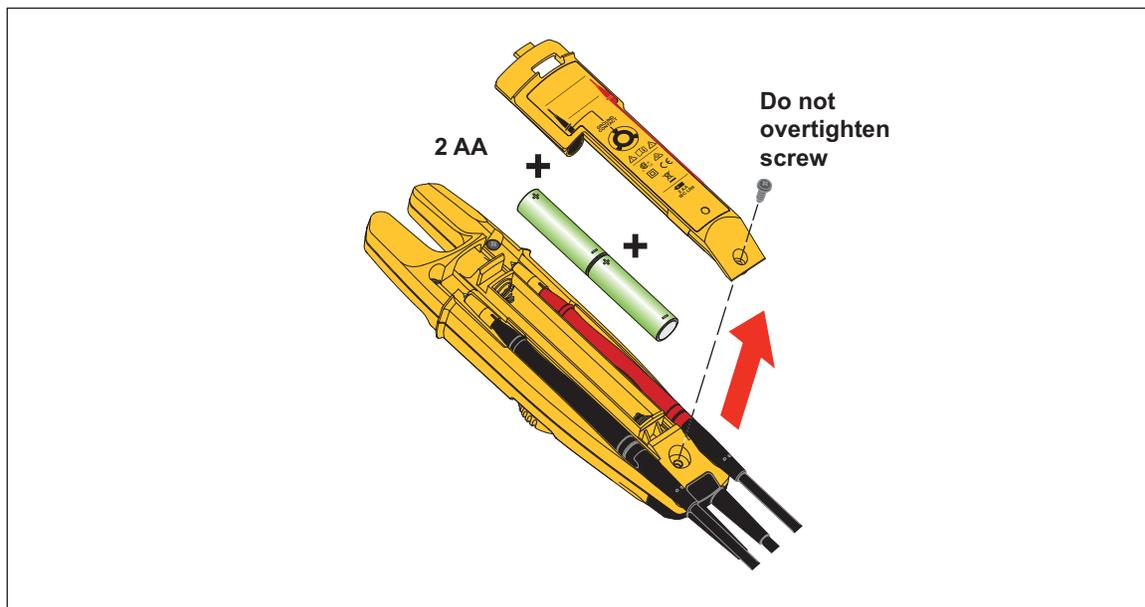

Figure 2. Battery Replacement
1. Remove the battery door screw. See Figure 2.